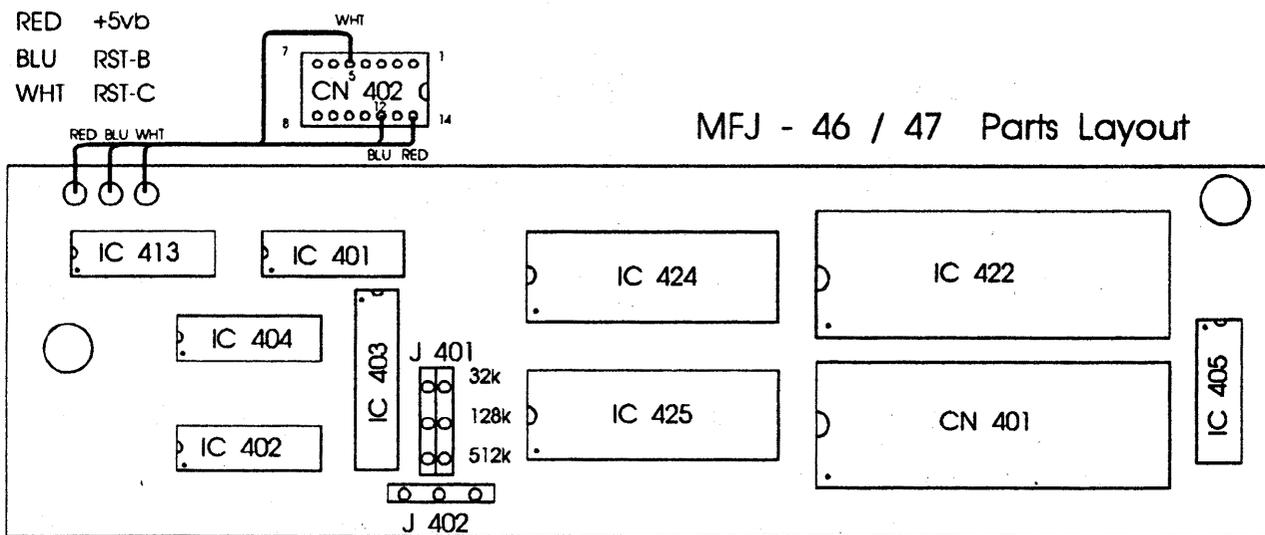

Figure 2
5. Install the ICs which were removed from your TNC in the above step. Take note as to the orientation of the IC. Match up the NOTCH on the IC to the NOTCH on the IC socket on the expansion board. Refer to Figure 2 parts layout diagram for proper installation of the ICs.